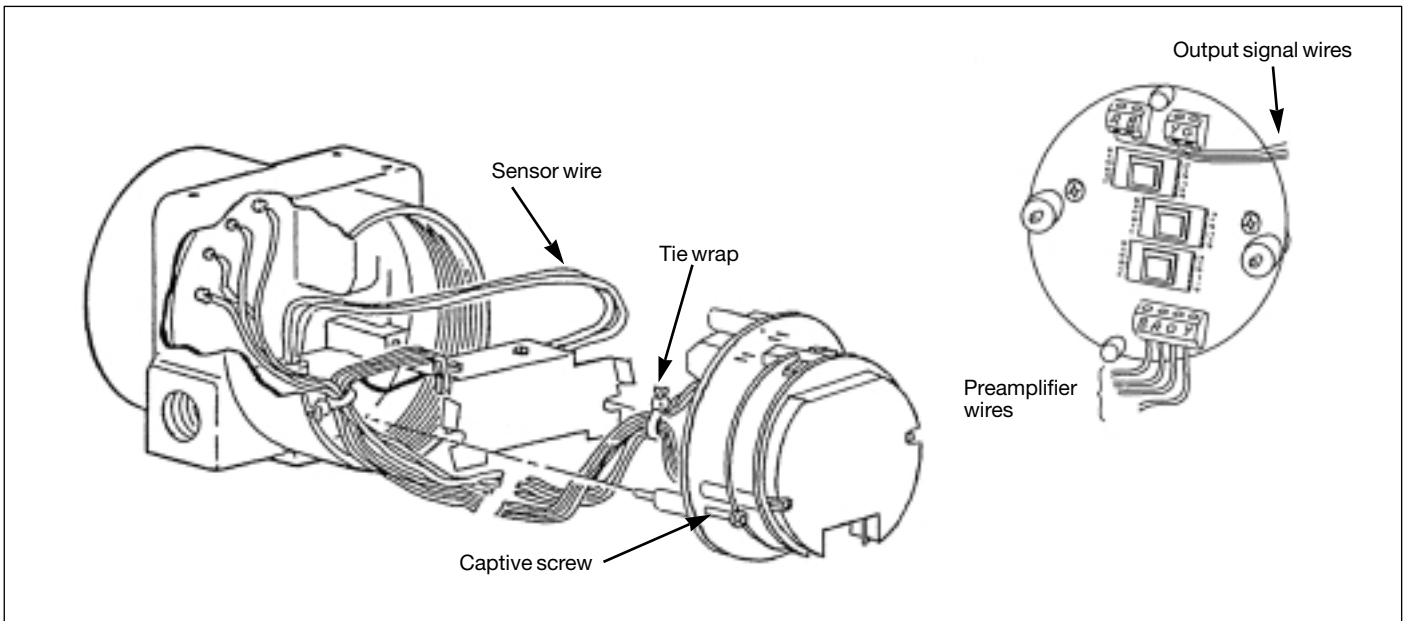
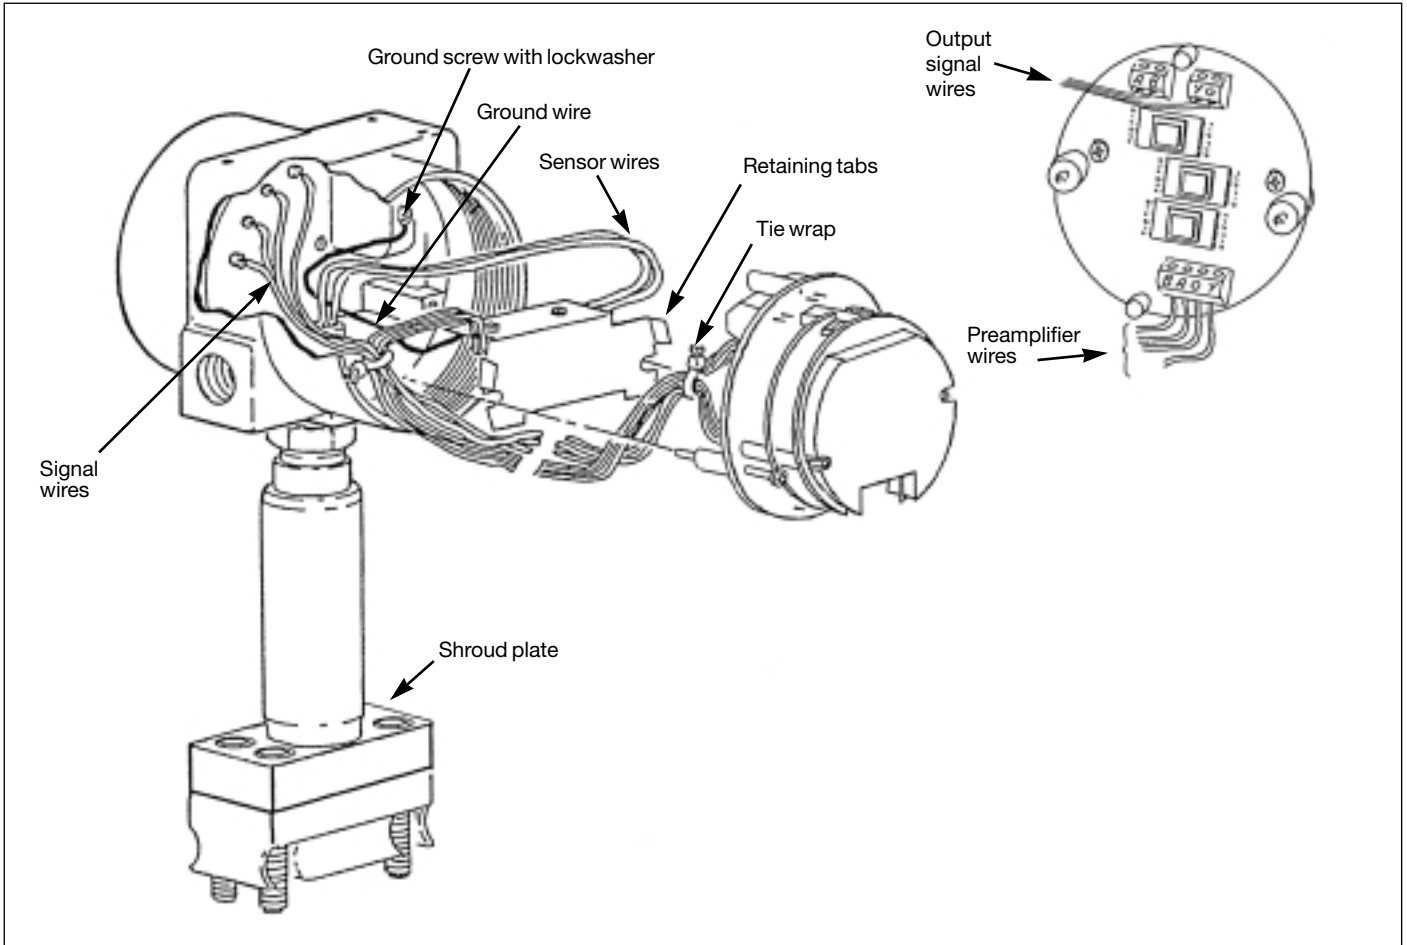

Figure 18: Electronic Module Connections - (Extended Temperature Range)
Figure 21. Electronic Module - CENELEC Certified Flameproof
- For remote mounted VFM 3100, remove all four preamplifier wires from the terminal block. Refer to Figure 18.
- Pull the electronic module out of the housing far enough to be able to disconnect the four preamplifier leads (brown-red-orange-yellow cable) from the terminal block on the electronic module and the four signal leads (red-blue, yellow-green). See Figure 18.
- Refer to Figure 18. Connect brown-red-orange-yellow preamplifier cable to the color coded terminal block on back of the electronic module. For CENELEC flameproof version, also connect the ground wire from the preamp to the housing as shown in Figure 21.
- Remove electronic module compartment cover (opposite “Field Terminal” side) and remove the electronic module as described starting on page 30. Remove the brown, red, orange and yellow preamplifier leads. Refer to Figure 18. It is not necessary to remove the display, if one is present.
NOTE: For CENELEC certified flameproof VFM 3100, disconnect preamplifier ground lead from housing. Save screw and lockwasher. See Figure 21.
- Before placing the preamplifier into the housing, bend the retaining tabs of the metal shield outward slightly to ensure a snug fit against the housing walls. See Figure 18. Align the mounting slots with the screw holes for mounting the electronic module.
- Prior to mounting the main electronic module in the housing, bring all the cables from preamplifier and the housing neatly together as shown in Figure 18.